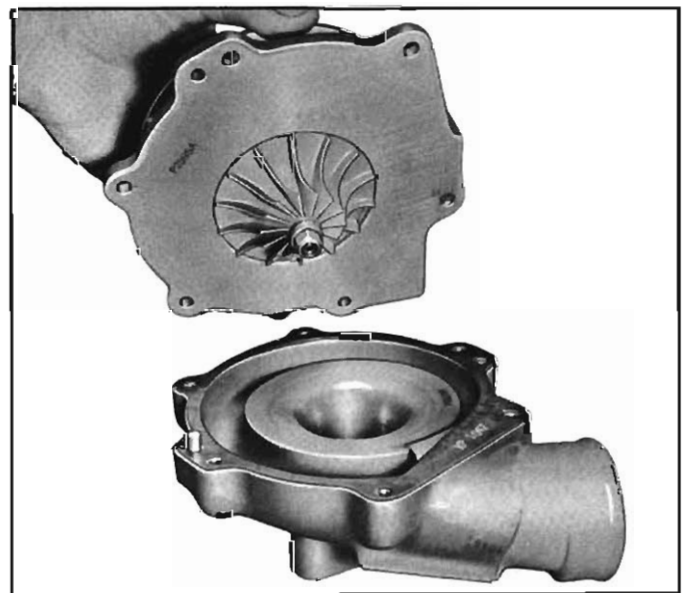

Fig. 41—Removing Compressor Housing
- Remove the six bolts that secure the compressor housing to the bearing housing, then remove the compressor housing and gasket (fig. 41).